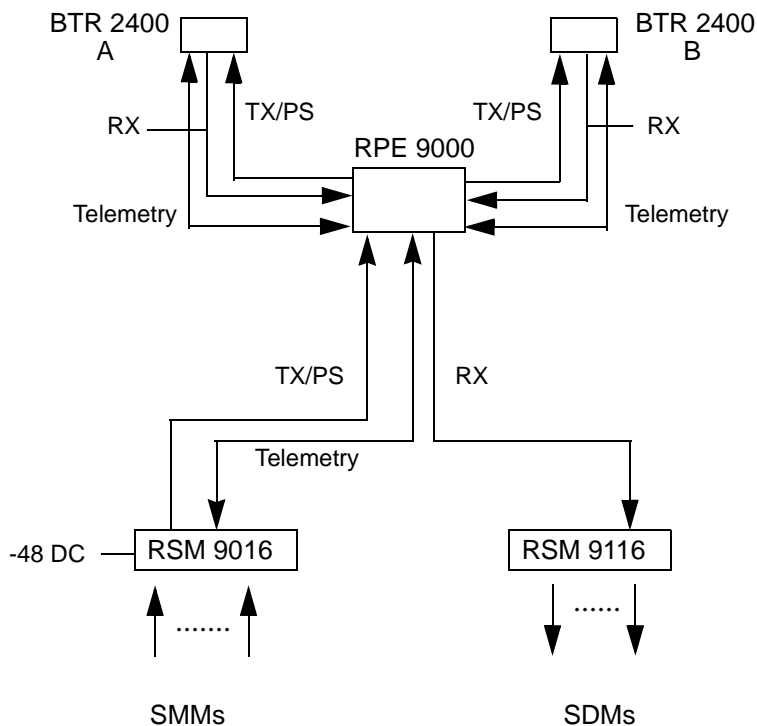

Figure 1-3
1. Remove the eight (8) socket head cap screws (# 8-32 UNC) on the antenna flange. There are four on top and four on the bottom of the antenna flange. Remove the lock and flat washers. See Figures 1-3, 1-4, 1-15 and 1-16.
7. Ensure that the screw is inserted at the top of the antenna to prevent water entering the antenna. However, loosen it halfway. The bottom screw is removed to allow condensation to drain from the antenna. See Figure 1-3.